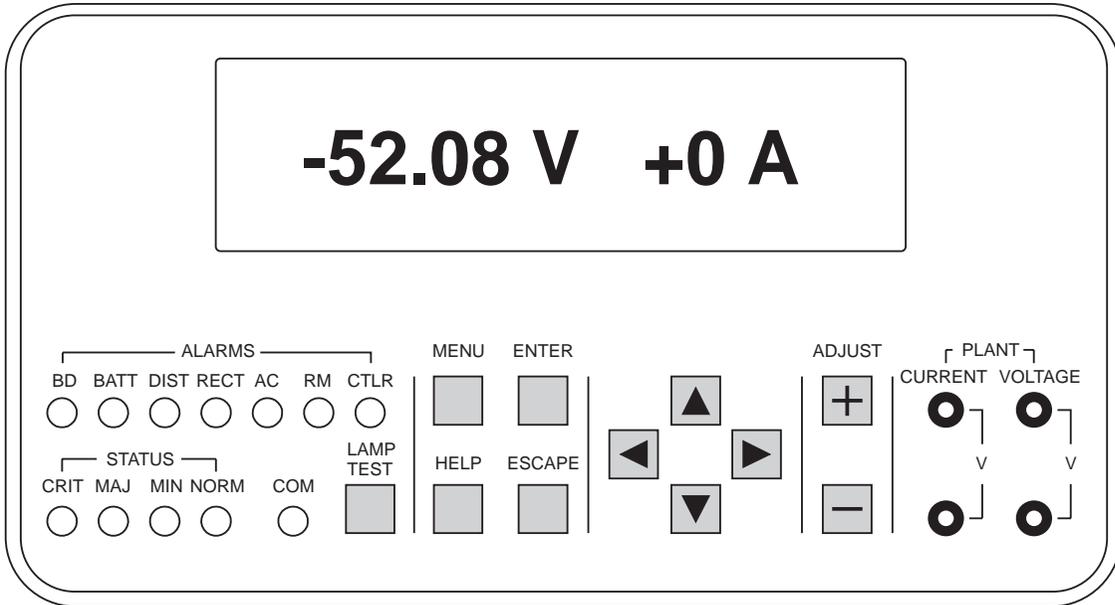

Figure 15-3: Galaxy SCF Controller Front Panel
- Figure 15-3 Galaxy System Controller Front Access (SCF)